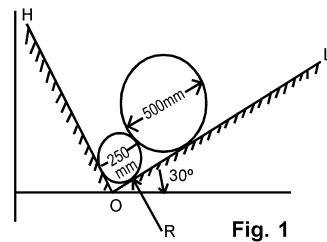

Fig. 1
1. (a) Two steel cylinders are supported in a right angle wedge support as shown in Fig. 1. The side OL makes an angle of 30° with the horizontal. The diameters of the cylinders are 250 mm and 500mm; their weights being 100 and 400N respectively. Determine the reaction R between the smaller cylinder and the side OL.